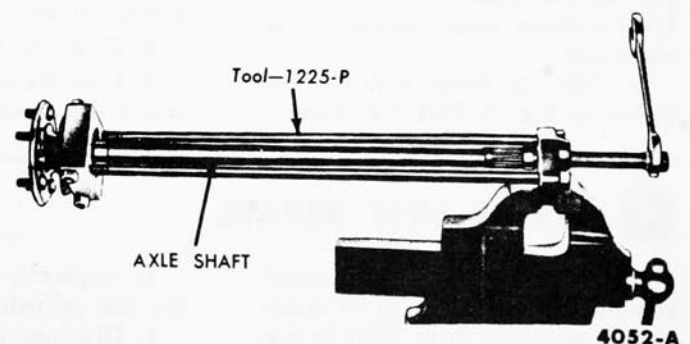

FIG. 3—Rear Wheel Bearing and Inner Retainer Removal
5. Remove the bearing and inner retainer from the axle shaft with the tool shown in Fig. 3.